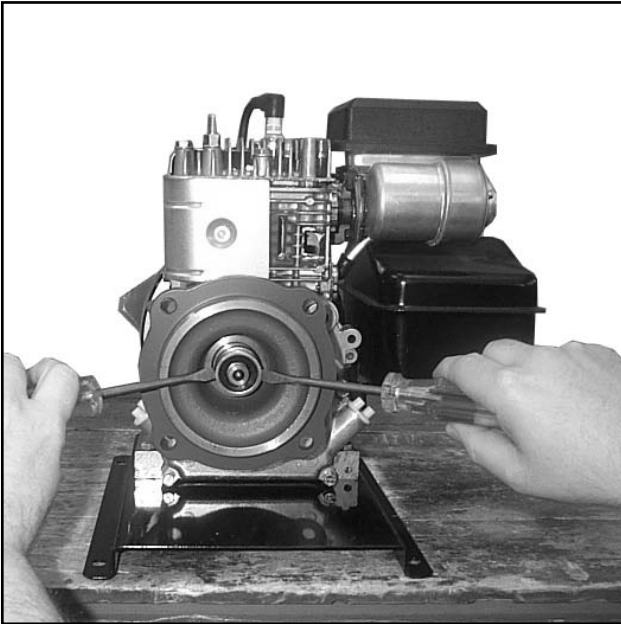

FIGURE 2
8. Pry off rotating member of mechanical seal from shaft sleeve by using two (2) screwdrivers (as shown in FIGURE 2).